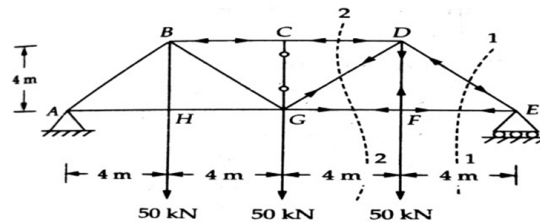

Figure 2
- (b) Find the forces in all members of a truss as shown in Figure 2 [7M]